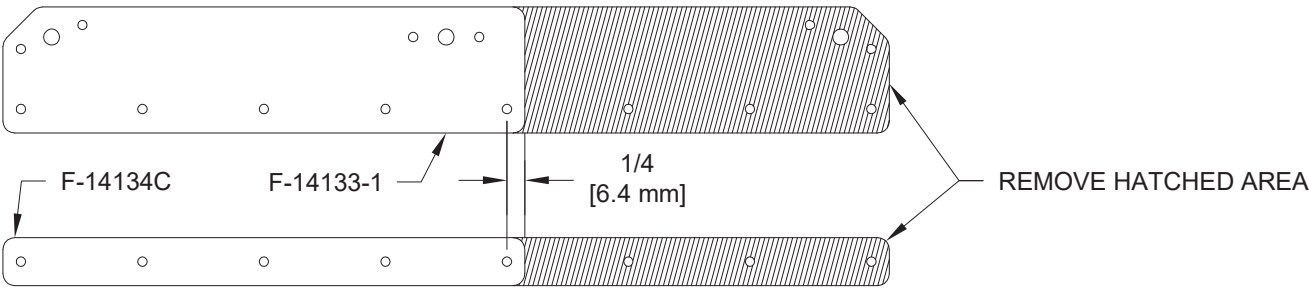

FIGURE 1A: F-14133-1 AND F-14134C MODIFICATIONS
Step 2A: Modify the F-14133-1 Cowl Attach Plates and F-14134C Cowling Hinge Shims as shown in Figure 1A.